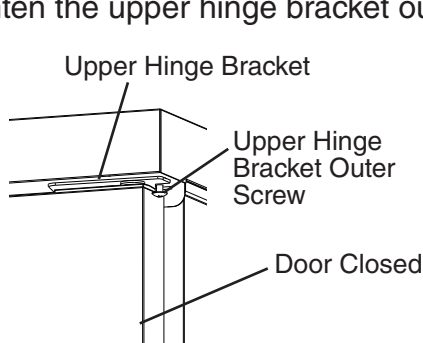
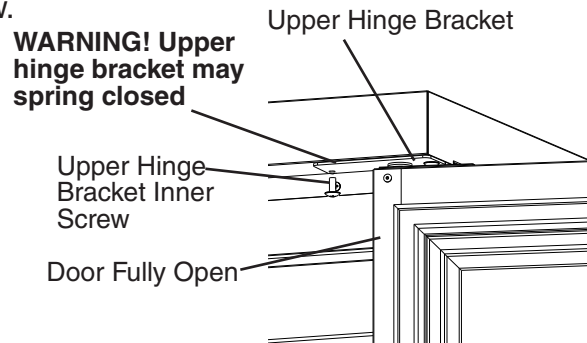

Fig. 23
Fig. 24
10) With the door closed, loosen, but do not remove, the upper hinge bracket outer screw. See Fig. 23. Next, open the door to the fully open position and remove the upper hinge bracket inner screw. See Fig. 24.